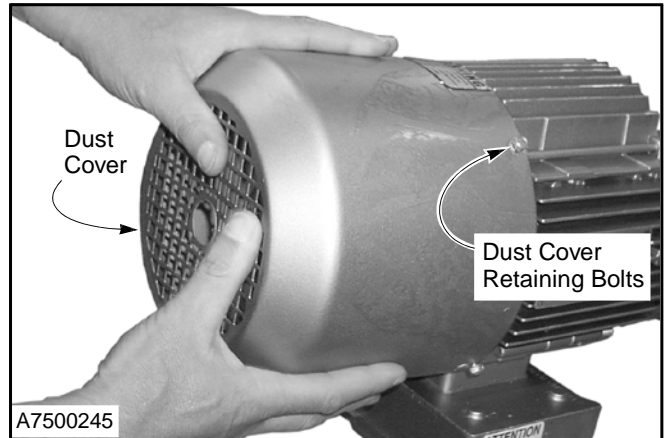

Figure 33
2. Loosen hex-head bolts retaining the dust cover to the motor assembly. Remove the cover. (See Figure 33.)